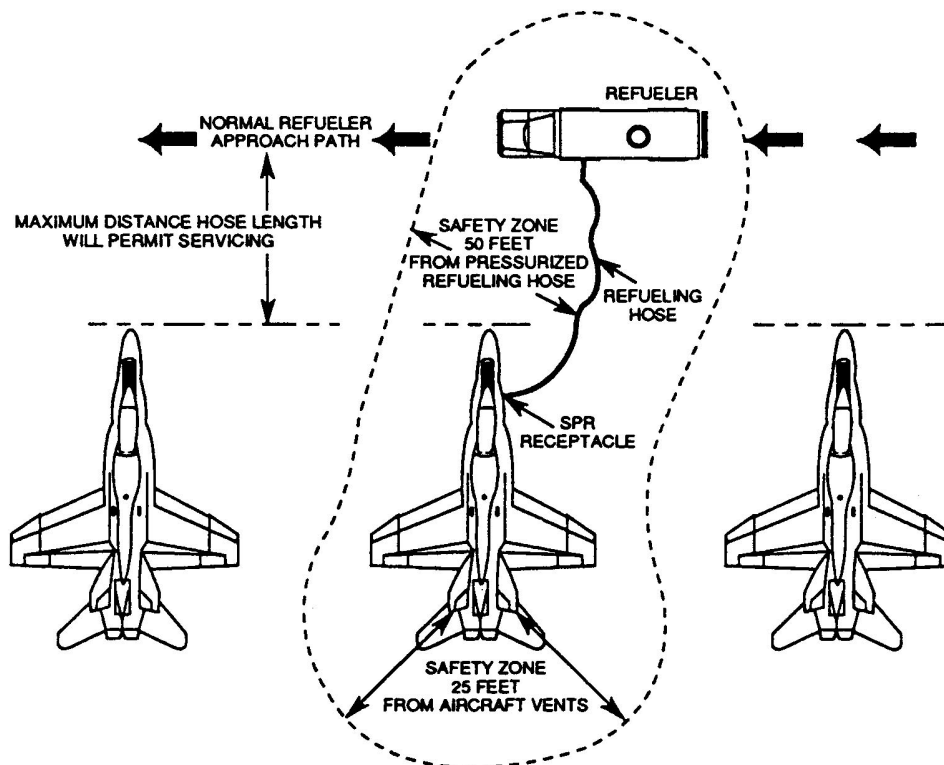
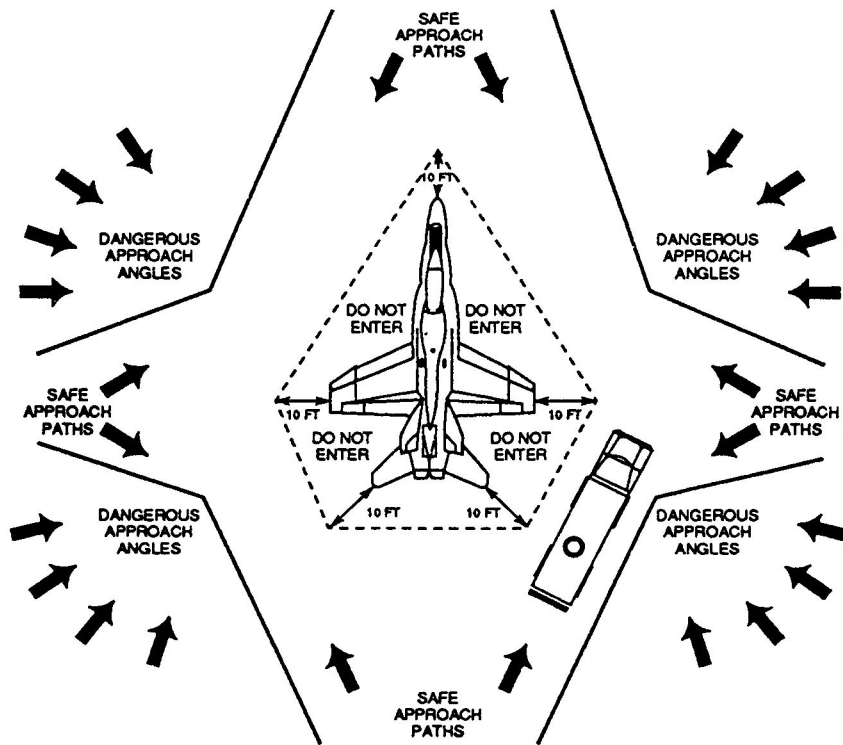
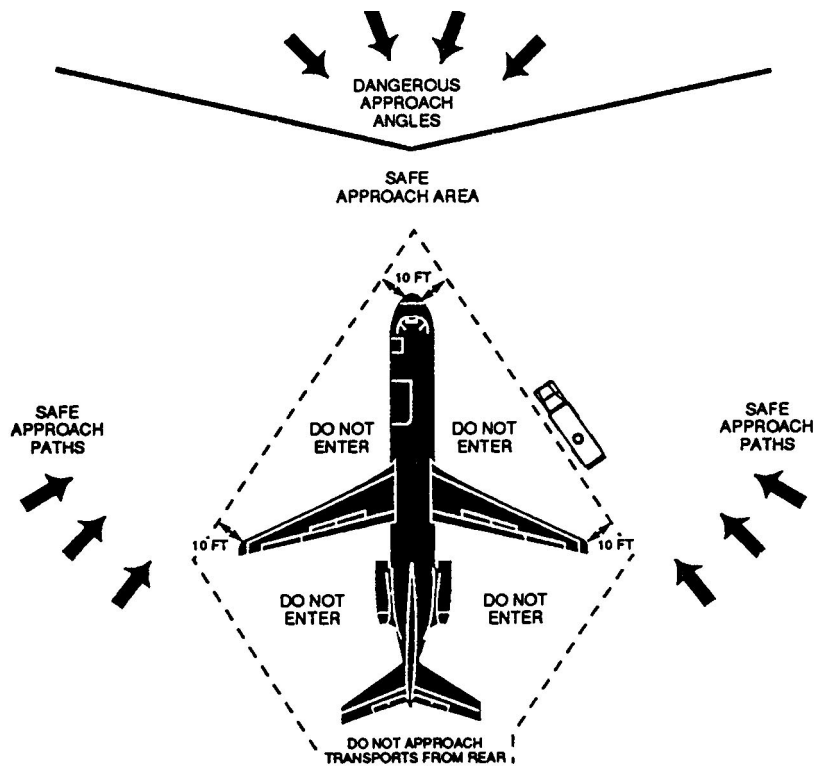

Figure 7-7.—Normal refueler approach path and safety zone.
Figure 7-8.—Alternate refueler approach paths.
Figure 7-9.—Refueler approach to prop, prop/jet, and transport aircraft.
Positioning of refuelers to service aircraft is done in the same manner—without variation—so that all personnel involved know exactly what to expect. Whenever possible, refuelers should proceed down a line of parked aircraft, with the driving path perpendicular to the aircraft fuselage axis, at the maximum distance the hose length will permit servicing. However, a truck must never approach closer than 10 feet of an aircraft. The normal refueler approach path, shown in figure 7-7, applies to all fixed-wing tactical aircraft and helicopters. Normally, no turns are made except at the end of the parking line. Driving between aircraft parked in line should be avoided; however, the preferred approach is not always possible. Figure 7-8 shows acceptable alternate methods when aircraft are not parked in line or when hose lengths are insufficient for service. Figure 7-9 shows the safe approach paths to prop, prop/jet, and
- be driven in the area described by straight line projections connecting points 10 feet from an aircraft's extremities (see figures 7-8, 7-9, and 7-10); or